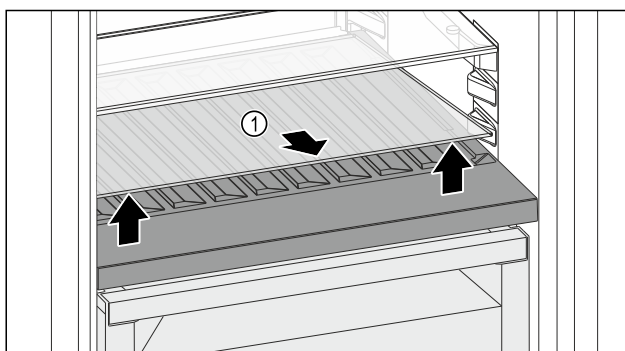

Fig. 127
- Lift the glass shelf Fig. 127 (1) at the front and remove.
- Store the glass shelf Fig. 127 (1) in a safe place outside the appliance.
- Insert the glass shelf (2) under the variable bottle rack.